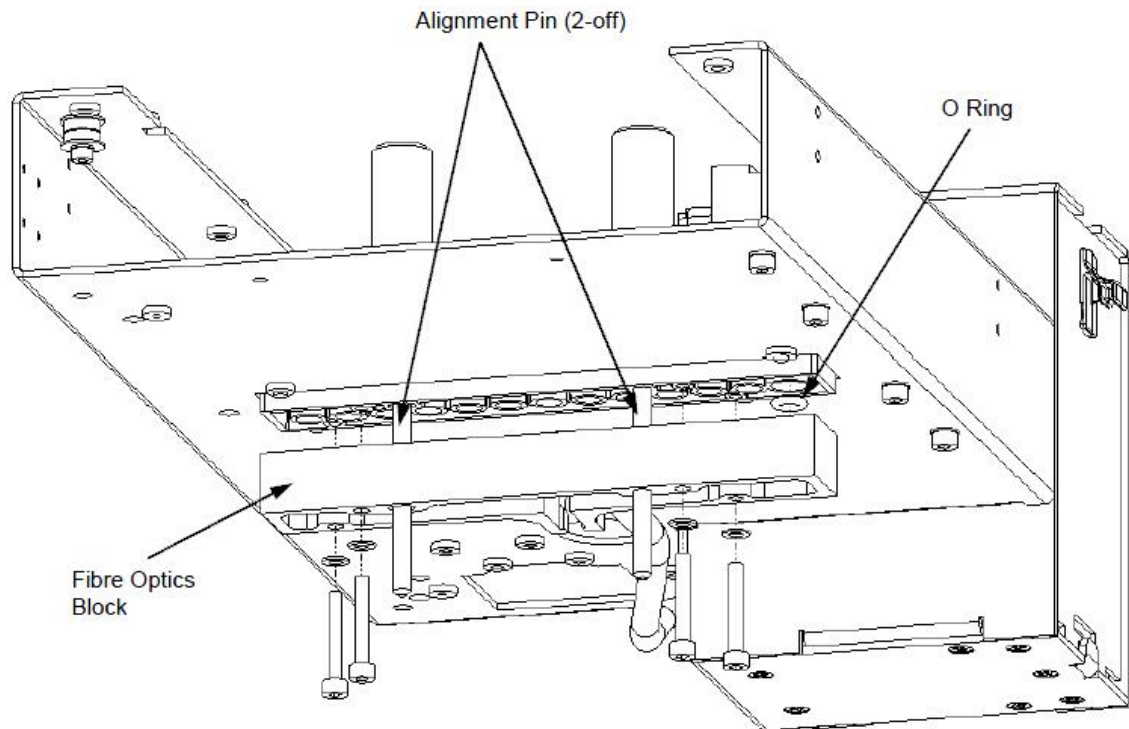

Figure N-11: Installing the Lower Optics Block
1. Place an O Ring over the reference Diode in the Lower Optics assembly. Slide two Alignment Pins through the Lower Optics and then through the Fiber Optics Block. Secure the Fiber Optics Block to the Lower Optics, ensuring the O Ring is in place, using four M3x20 Socket Cap Head Screws and four M3 Internal Tooth Washers. Care should be taken not to over tighten the screws (Figure N-11).